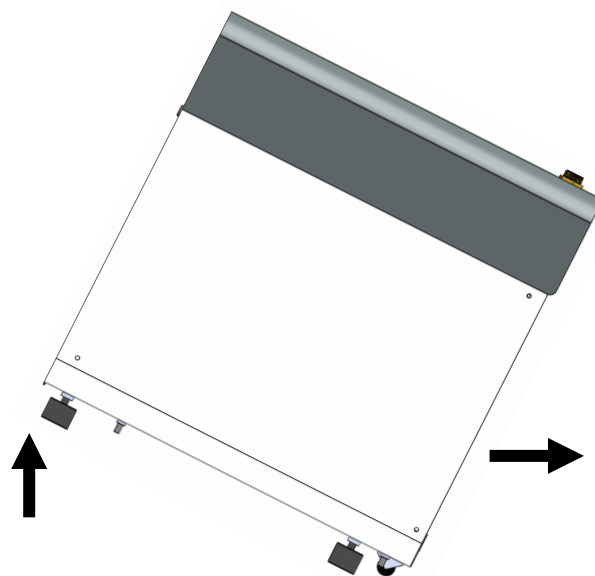

Fig 11. Shoebox NX rear wheels
- Tilt the unit to engage the rear wheels and roll into place. Using the adjustable feet, level the unit. (fig 11)